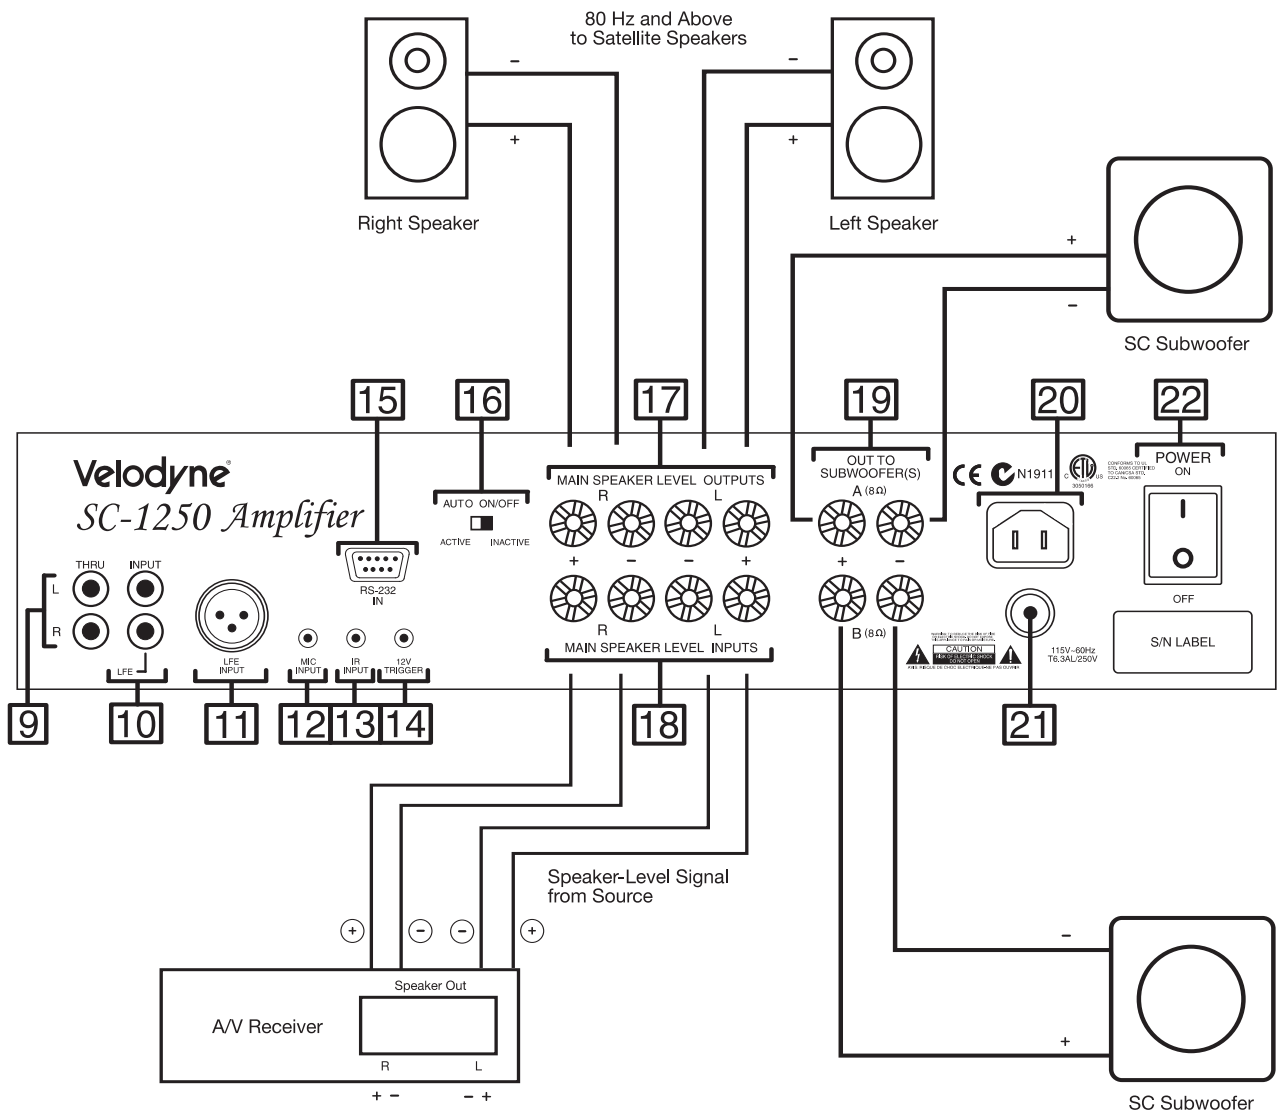

Figure 5: Speaker-Level Connection.
**(17) Speaker Level Output Terminals** *(See Figure 5)*
### **(18) Speaker Level Input Terminals** *(See Figure 5)*